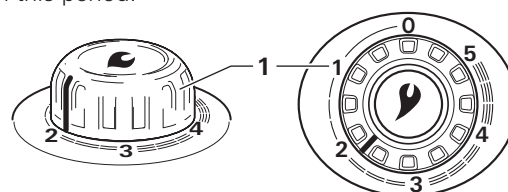

Figure 3
2. Turn the control knob (Figure 3 – 1) to the thermostat position 1 – 5 and push in as far as it will go (maximum 30 seconds). Ignition with an audible ignition spark takes place automatically in this period.
i If the flame goes out during operation, immediate automatic re-ignition takes place within the closing time of the safety pilot (approx. 30 seconds). In the event that ignition is unsuccessful despite repeated attempts (e.g. because the gas cylinder is empty), the auto ignitor continues to operate until the control knob (Figure 3 – 1) is set to “0”.